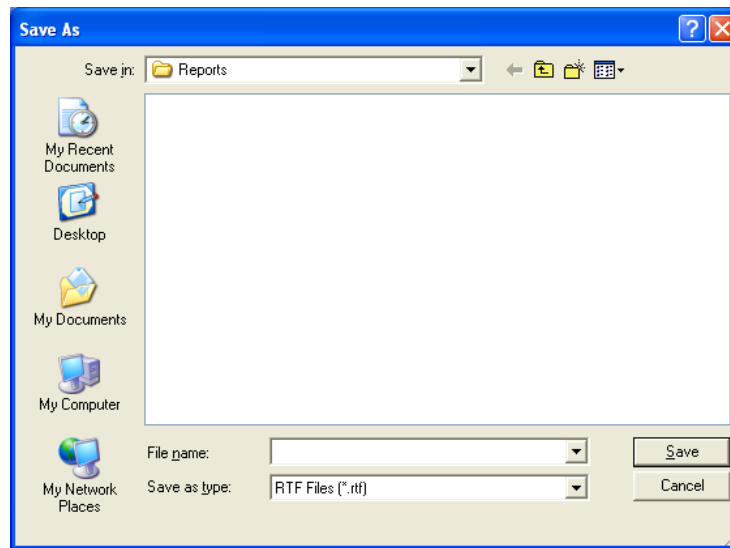

Figure 10-80
3. To save the report on the screen, click the **Save to File** button or press *ALT+S*. The Save As box appears as in Figure 10-80. Reports are saved as an RTF file in the Captus3000\Reports\ directory by default.